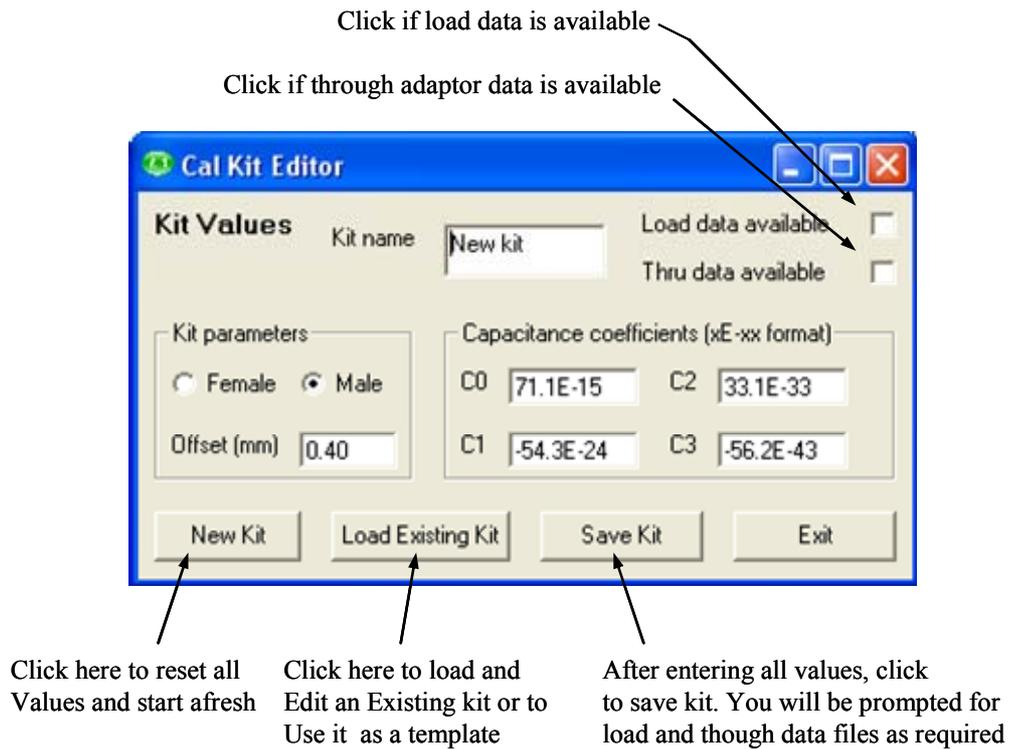

Figure 4.5 Calibration Kit Editor
As already mentioned, the calibration kit editor can be used to create or edit an existing calibration kit. Fig. 4.5 shows the editor window. A typical example is to create a new kit using an existing kit as a template to speed the process. So, the process would be to first load the existing calibration kit. Type the new kit name in the name box and modify the parameters as required. Finally, click Save Kit to save the new kit under a new name.
- Load kit using the Kit Editor (see Fig. 4.5)
- Save the kit for future use by clicking the 'Save Kit' button (Fig. 4.5).